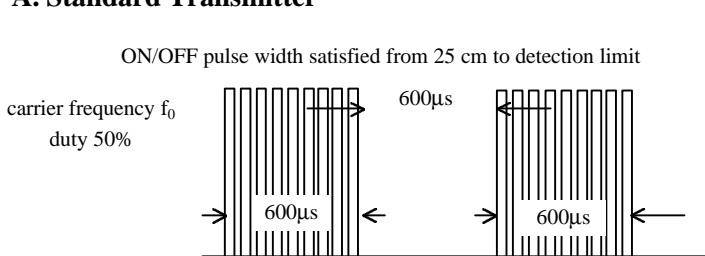

Fig 1. Burst Wave
- (1) Measuring placeIndoor without extreme reflection of light.
- (2) Ambient light source... Detecting surface illumination shall be 200±50Lux under ordinary hite fluorescence lamp of no high frequency lighting.
- (3) Standard transmitter ...Burst wave indicated in Fig 1. of standard transmitter shall be arranged to 50mVp-p under the measuring circuit specified in Fig 2.